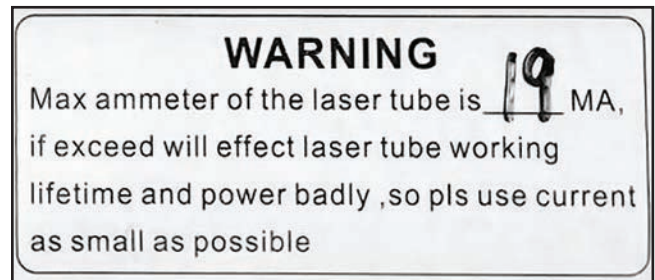

Figure 50. Example of ammeter mA rating.
16. During operation, verify ammeter indicator does not exceed mA rating listed above ammeter (see **Figure 50**).